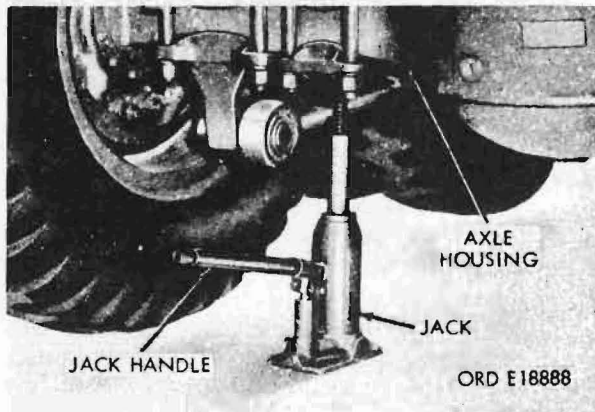

Figure 51. Truck jack
(36) Truck jack (fig. 51). The truck jack, in stowed position except when in use, is used to jack up the vehicle for repairs.